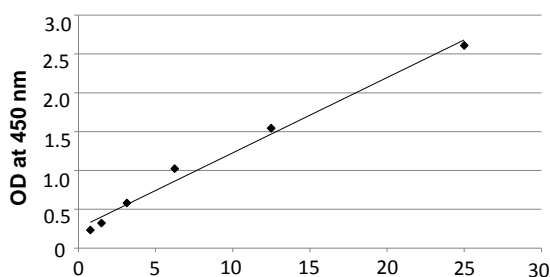
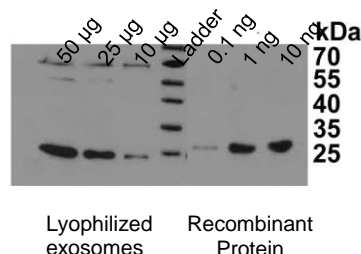

Figure 4. CD9 titration of plasma healthy donor exosome standards.
Figure 5. CD9 marker detection by Western Blotting on lyophilized exosomes from human plasma and the recombinant CD9 protein.
10. Sensitivity: The sensitivity of the Exosome (Cell Media, Luminometric) Capture and Quantification Assay Kit was compared to Western blot. The data reported in Figure 4 and 5 demonstrate that the sensitivity is higher than that of Western blotting. Figure 5 shows that 10 µg of lyophilized exosomes is equivalent to 0.1 ng of recombinant exosomal protein (CD9). Since the standard curve's lower concentration is 0.39 µg of lyophilized exosomes (Figure 4), the sensitivity of our test is around 39 pg of protein equivalent.